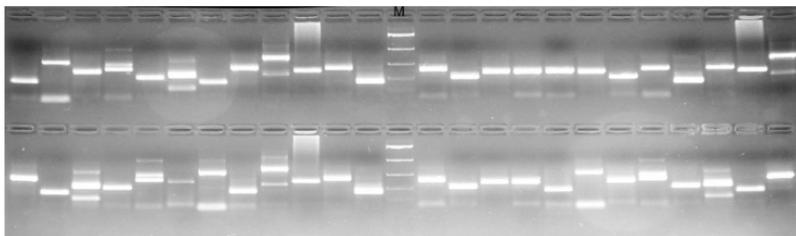

Figure 3. Sensitivity and Genomic Coverage of Bisulphite Conversion when using MethylEasy™ Xceed.
- greater amplification efficiency (Figure 3)